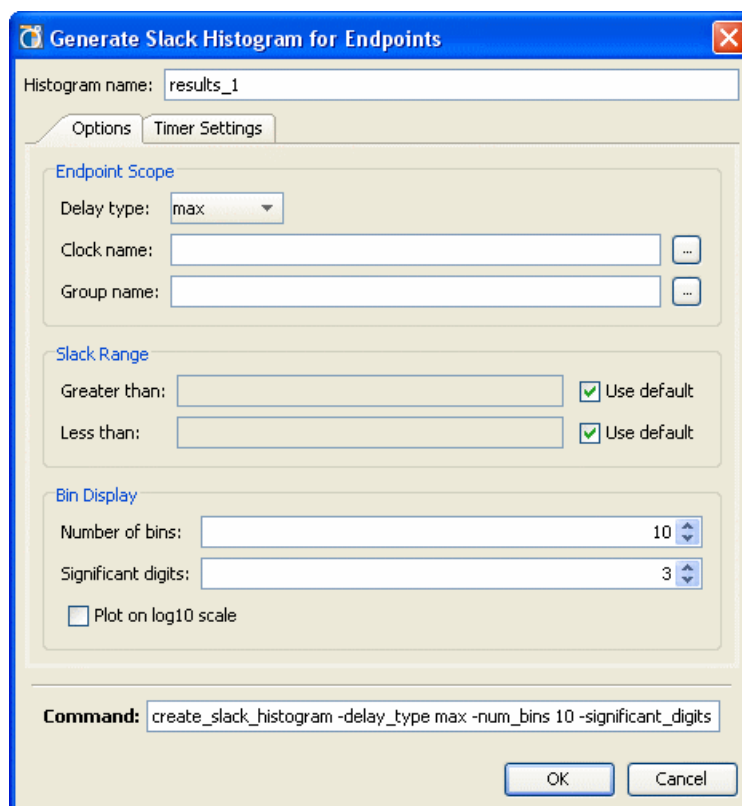

Figure 7-20: Generate Slack Histogram for Endpoints Dialog Box: Options Tab
2. The Generate Slack Histogram dialog box opens, as shown in Figure 7-20, page 232, and you can customize the slack histogram. The options are:
You can specify the options used to generate the histogram using the Options tab of the Generate Slack Histogram dialog box. Figure 7-20 shows the Options tab.